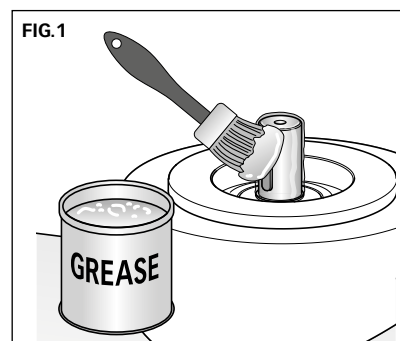

FIG.2
- **FIG. 2** Insert the lower half-coupling, secure it with the snap ring (BTAC 513/610 only) and the cush drive damper into the end of the gearleg shaft.